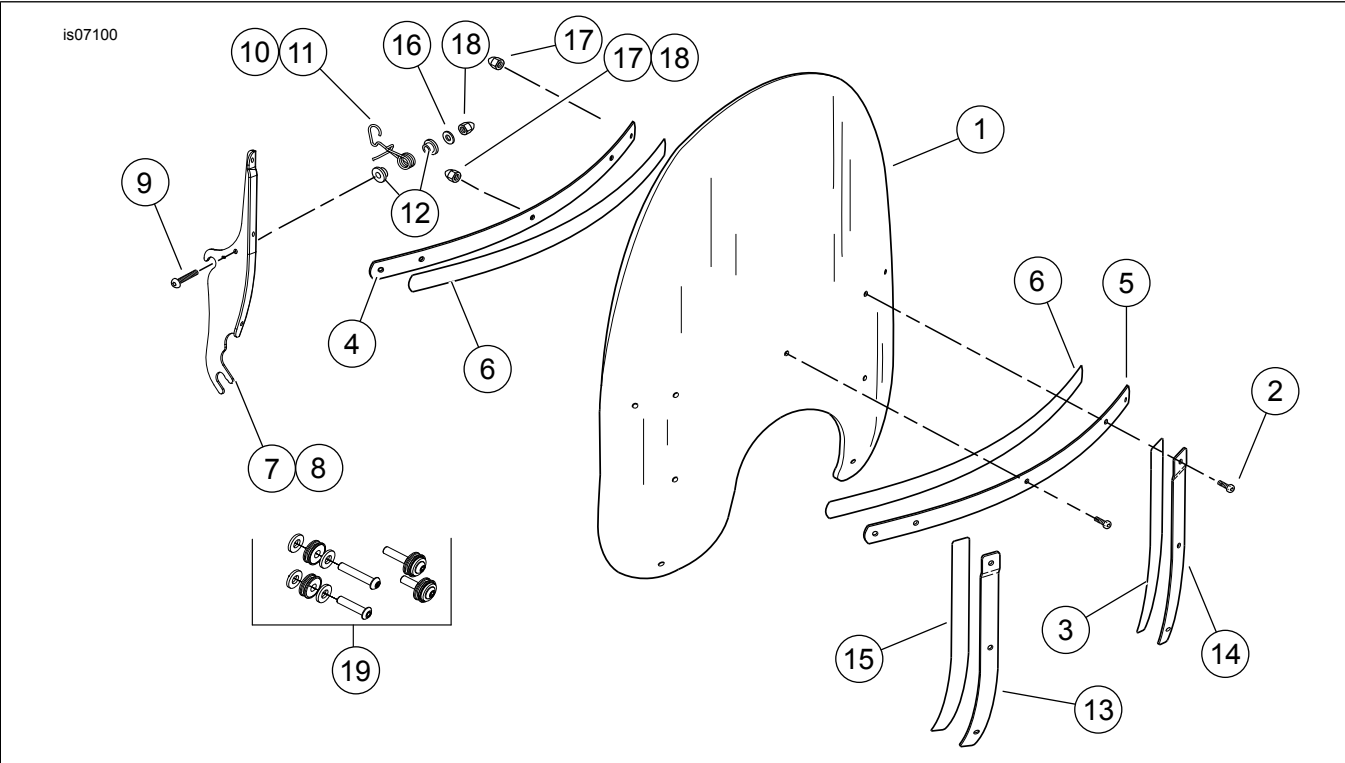
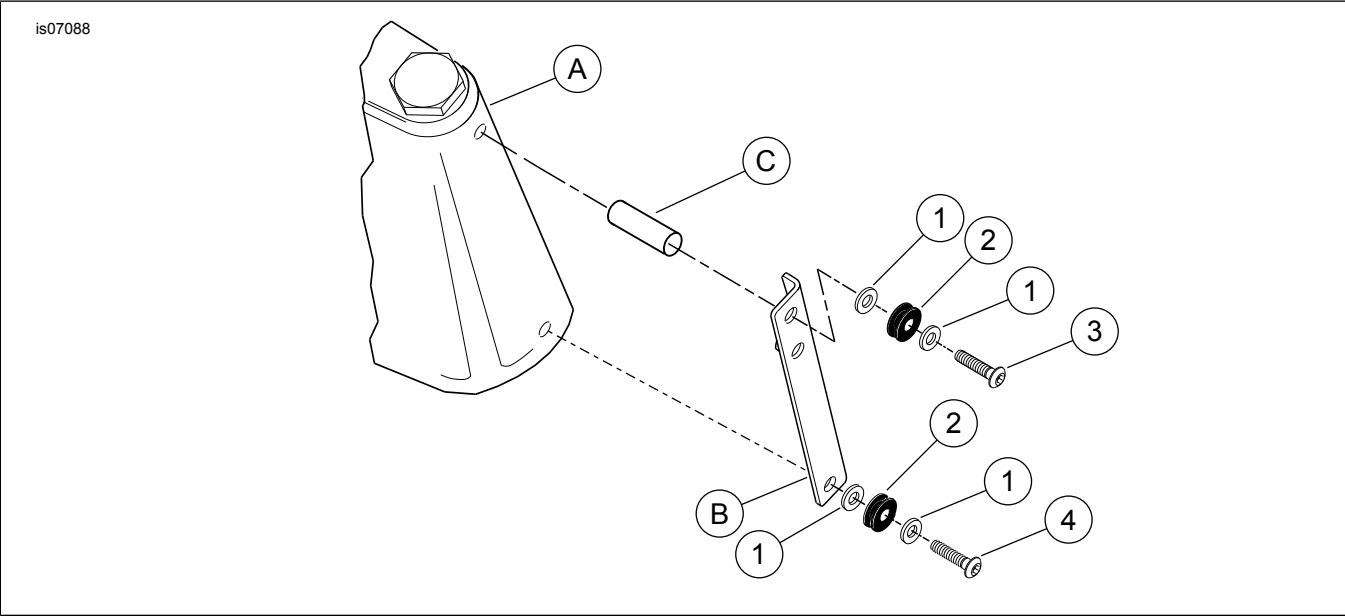

Figure 1. Service Parts: Windshield Kits
Figure 2. Service Parts: Hardware Kit
See Figure 1 and Table 1, Figure 2 and Table 2.
2. Figure 2 and Table 2. Remove and discard the original bottom fog/passing lamp bracket screw (4) and washer (1).
3. Place a new flat washer (1), bushing (2) and flat washer (1) on a 1-3/8 inch long screw (4) from the kit. Thread the screw through the lower hole in the fog/ passing lamp bracket and decorative fork cover, and into the triple clamp. Tighten.